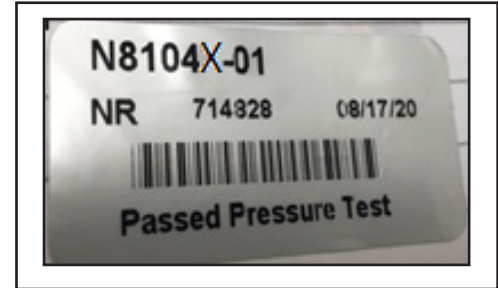

Figure 3 - Example of Label - REPLACE PIPE
- If the label looks like the label shown in Figure 3, the pipe **must be replaced**.